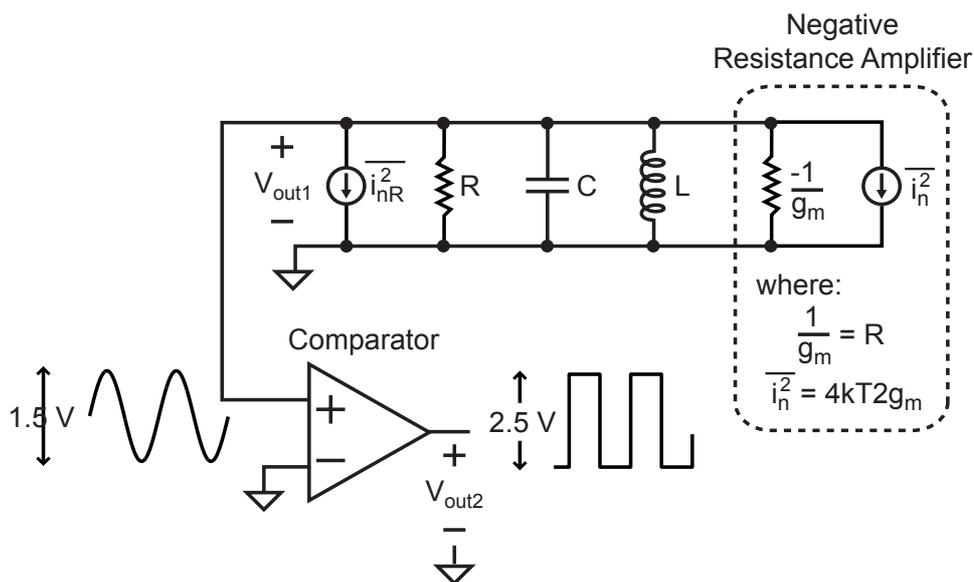

Figure 3: Linearized model of an oscillator feeding into a comparator.
3. The following problem focuses on analysis of the linearized oscillator model shown in Figure 3. It is assumed, for simplicity, that both of the current noise sources are white, and that the comparator is ideal (i.e., has infinite slope at its transitions, and no internal noise sources).